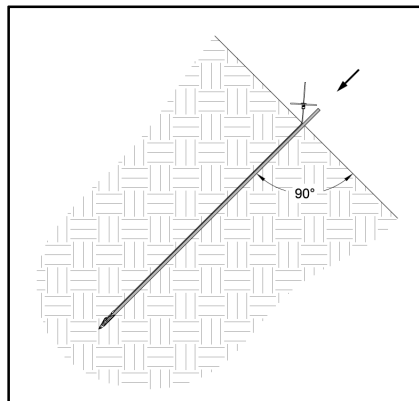

Figure 24: Drive Steel to Drive the Anchor into the Ground
3. Using a percussion hammer, guide the drive steel into the ground perpendicular to the slope surface at a smooth pace. Continue driving until the desired embedment depth is reached (Figure 24).